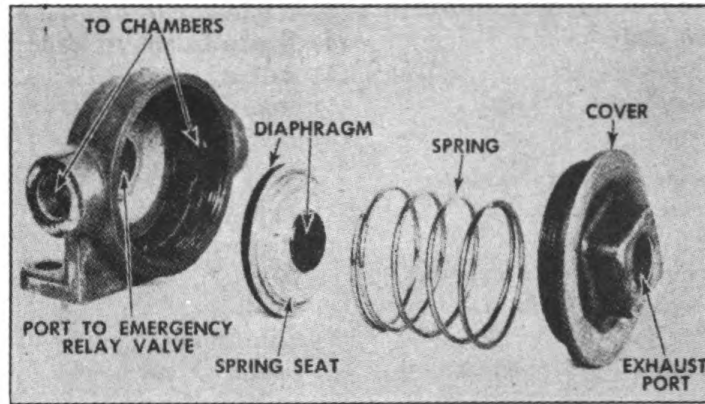

FIGURE 37. SERVICE BRAKES—QUICK RELEASE VALVE
c. *Disassembly.*—This valve can be disassembled without removing unit from trailer. Screw off cover, remove spring and lift valve assembly out (Fig. 37).